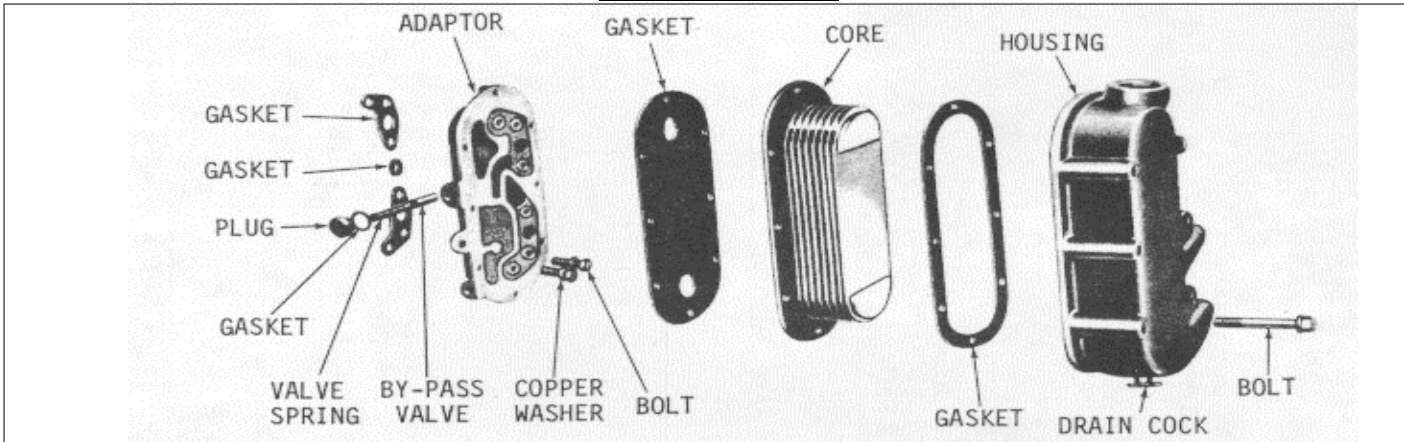

Fig. 3
- (3) Wash all of the parts in clean fuel oil and dry them with compressed air.
- (4) Inspect the parts for wear. If necessary, install new parts.
- (5) Reassemble and install the bypass valve (Fig. 3). The bypass pressure is 18-21 psi (124-145 kPa). Tighten the 1-1/4"-16 bypass valve plug to 95-105 ft-lbs (129-130 Nm) torque.
- (6) Use a new gasket and install the filter adaptor.
Refer to Fig. 3 and install the lubricating oil cooler as follows: